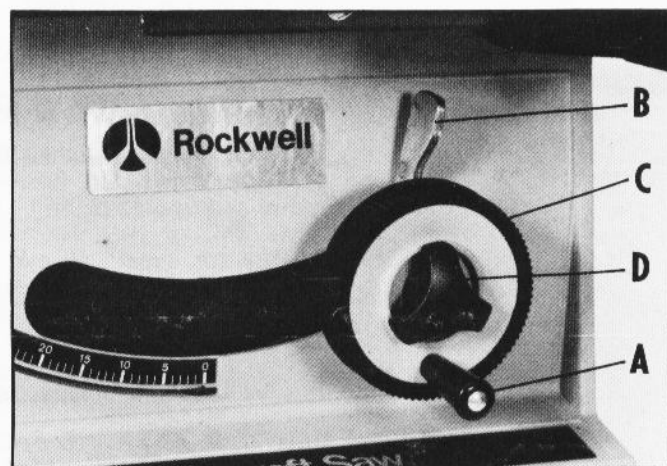

Fig. 22
To tilt the saw blade for bevel cutting, loosen the lock handle (B) Fig. 22, by moving it to the left, and turn the blade tilting handwheel (C). When the desired angle is obtained, tighten lock handle (B) Fig. 22.
To raise or lower the saw blade, loosen the lock knob (D) and turn the raising handwheel (A) Fig. 22. When the desired blade height is obtained, tighten lock knob (D) Fig. 22. With the exception of hollow ground blades, the blade should be raised 1/8" to 1/4" above the top surface of the material being cut. With hollow ground blades the blade should be raised to the maximum to provide greater clearance.